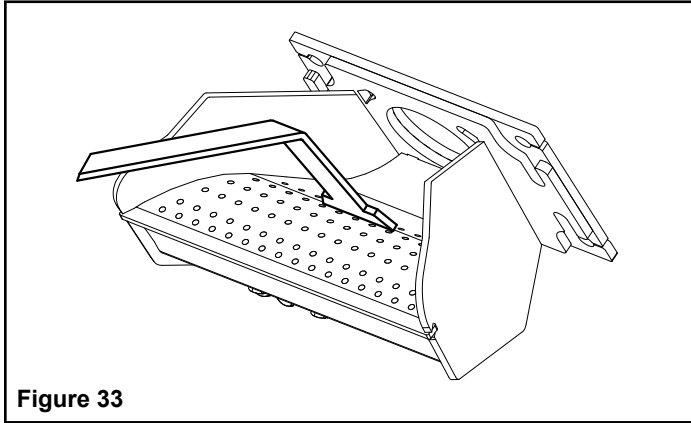

Figure 33
4. Scrape burnpot with flat end of scraper provided with the stove. Inspect the holes on the burnpot surface. See Figure 33.
- 1 Scrape the top holed surface and sides of the burn pot. Figure 33. It is not necessary to completely remove all material from the burn pot. The excess will be pushed out during the next use.